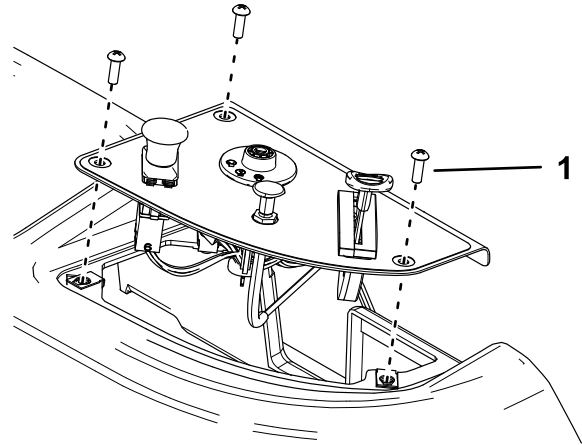

Figure 5
1. Remove the 3 screws securing the control panel, then remove the lift the control panel to access the wire harness (Figure 5).
4. Install the control panel and secure it with the 3 screws previously removed (Figure 5).